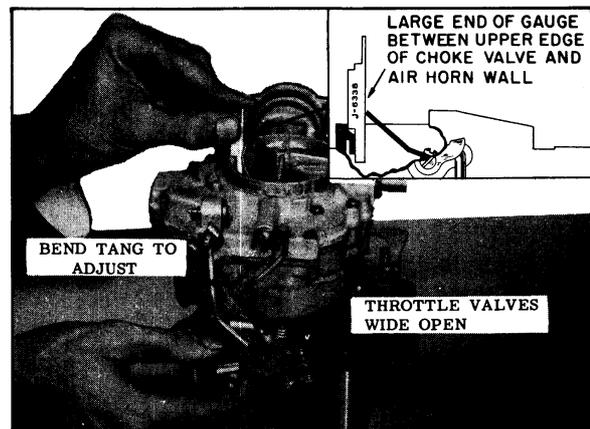

Fig. 8-143 Unloader Adjustment
5. Using Tool No. J-6338 check clearance between top of choke valve and inner wall of air horn. (See Fig. 8-143)